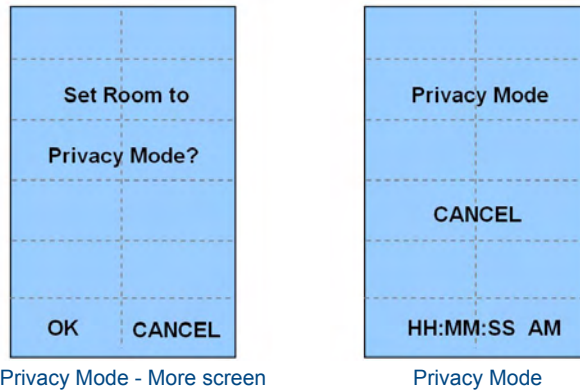

FIG. 10 Privacy Mode - More screen / Privacy Mode
2. Select **PRIVACY MODE** to display the **Privacy Mode-More** screen (FIG. 10).